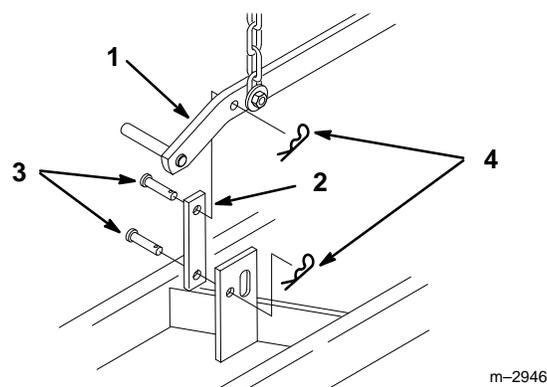

Figure 7
12. Attach lift link between blade and tractor attachment lift hole. Secure with (2) 3/8 x 7/8" (22 mm) clevis pins and medium hairpin cotters (Fig. 7).